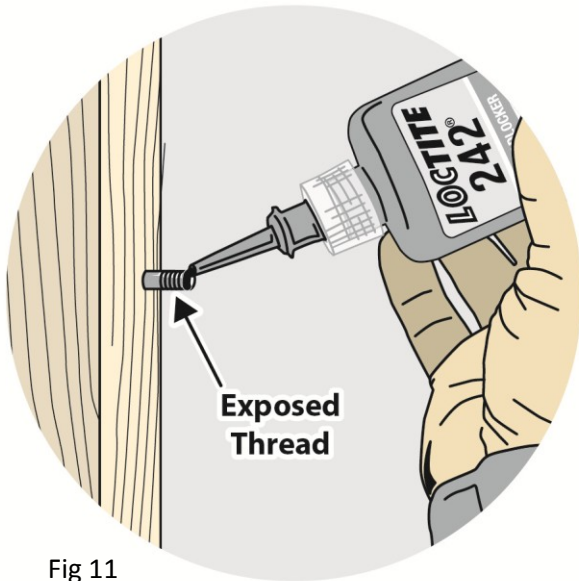
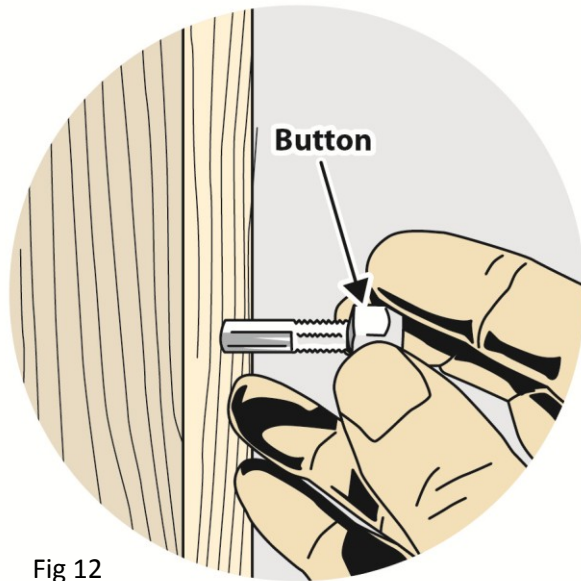

Fig 11
Fig 12
- a) Insert FineLine® Button Shaft/Swage Button End Shaft through the 3/8" drilled hole on Post 1. Apply Loctite™ to the threads (Fig. 11) and screw on the button which will rest on the outside face of the post (Fig. 12).